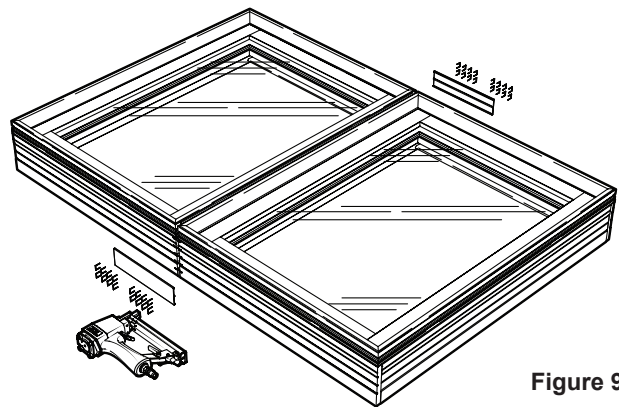

Figure 9
- Fasten the 8" mull plate to the ends of each mull joint with sixteen 1/2" x 1/2" crown staples using eight staples on each side of the mull. (Figure 9)